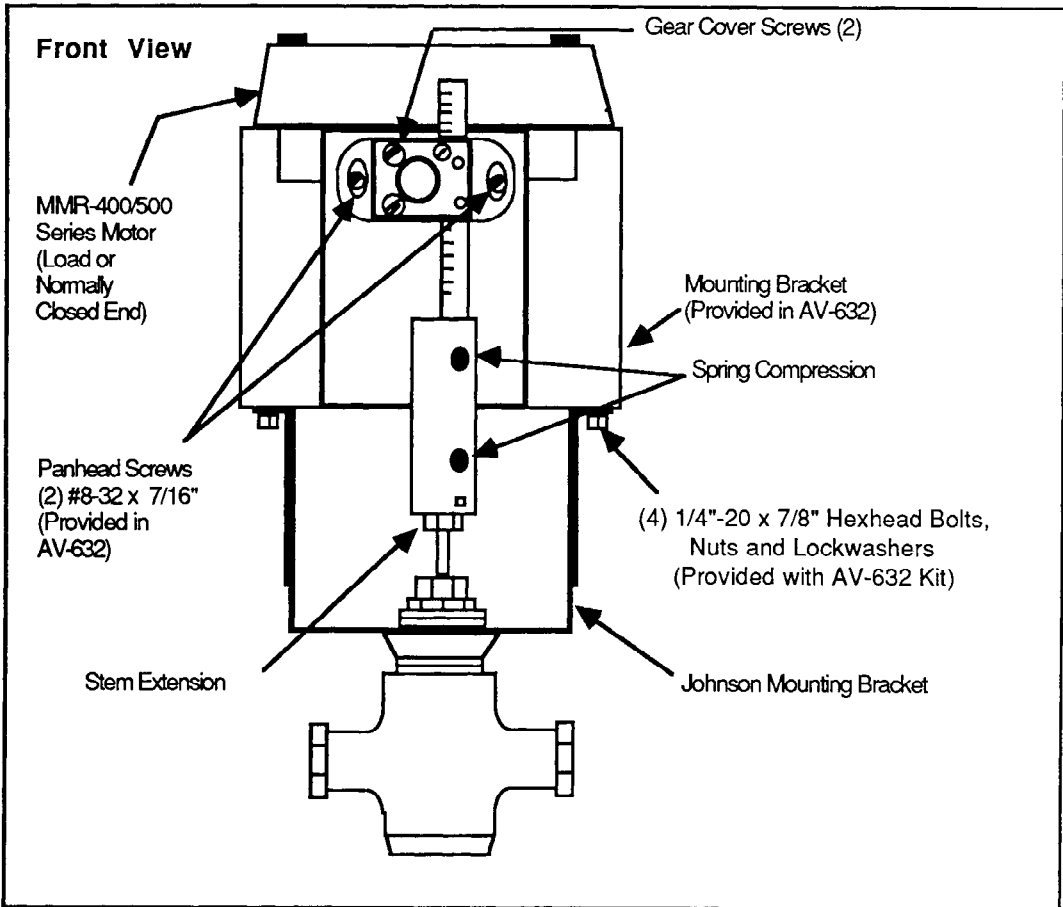

Figure 7. Johnson Valve Linkage CCW Stem Up
Mounting to Johnson Y20EBD Valve Linkages (See Figures 7 thru 10):
7. Tighten the two screws holding the gear housing assembly, replace gear cover plate and tighten the 2 (two) gear cover screws (See Figures 7 or 8).